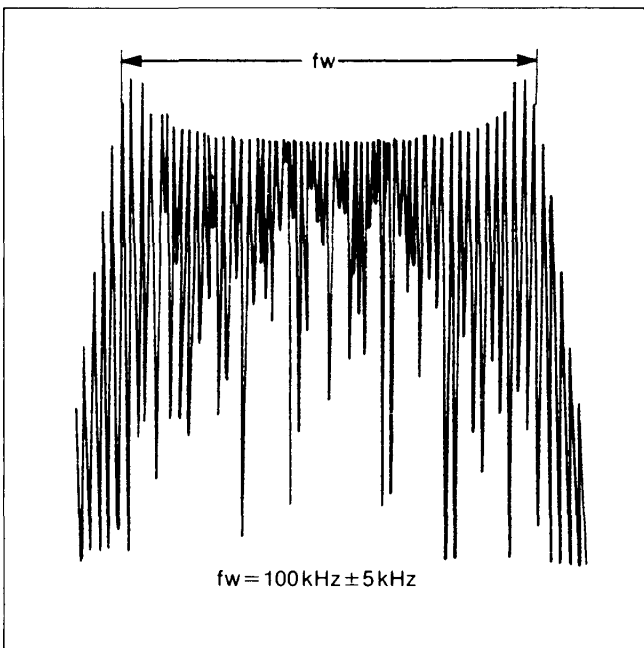

Figure E50
6. Adjust VR4712 (CH2) so that the width of fw portion becomes 100KHz +/-5KHz as shown in Figure E50.